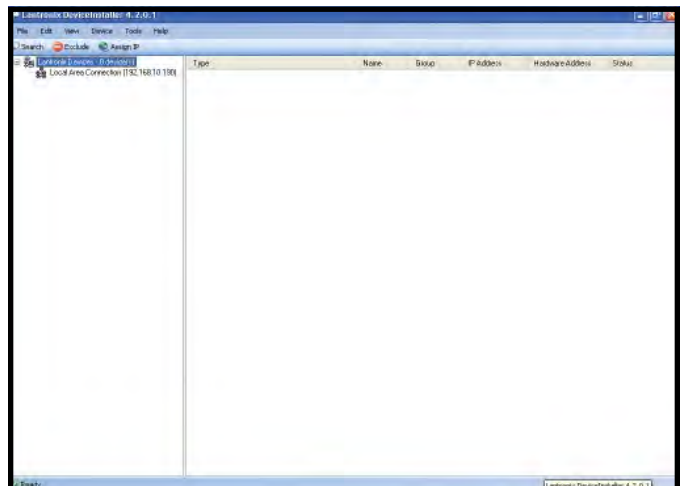

Figure 64. DeviceInstaller home screen
- I. Open the Lantronix DeviceInstaller program. The home screen will open (see Figure 64).